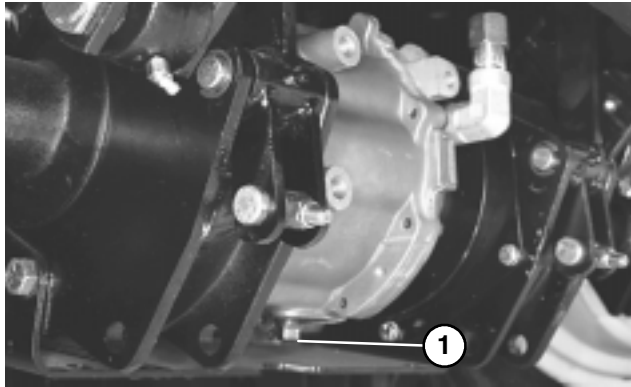

Figure 54
CHANGING FRONT AXLE LUBRICANT (Fig. 54)
2. Clean area around the drain plug (Fig. 54).